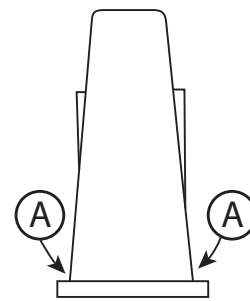

FIG. 3
- Step 2:** Measure around the outside of the turbo as shown in figure 3 and 4. The narrow side of the turbo is dimension A.